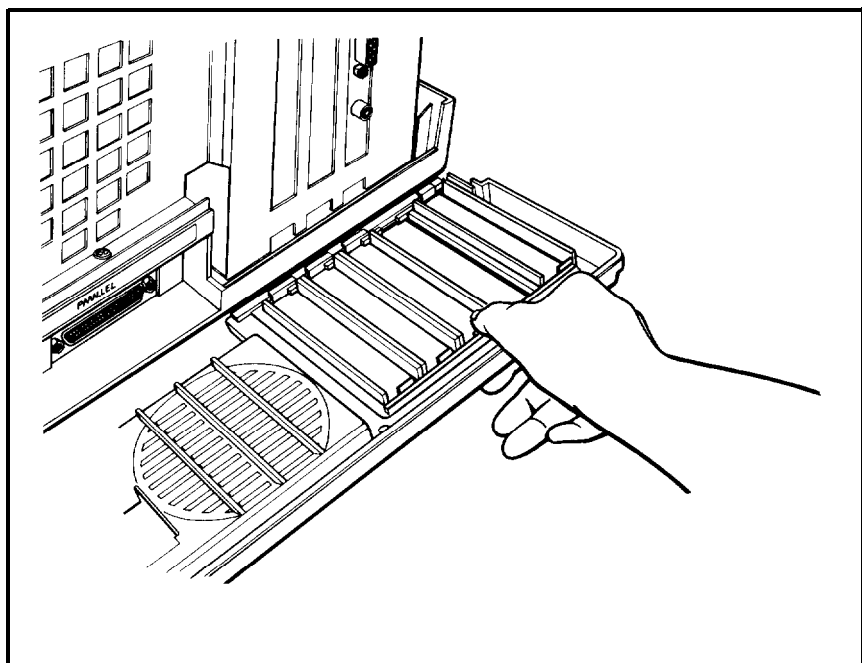

Figure 5-5. Removing access slot cover
2. Remove the appropriate cover by pushing down on the clip and pushing out. See Figure 5-5.